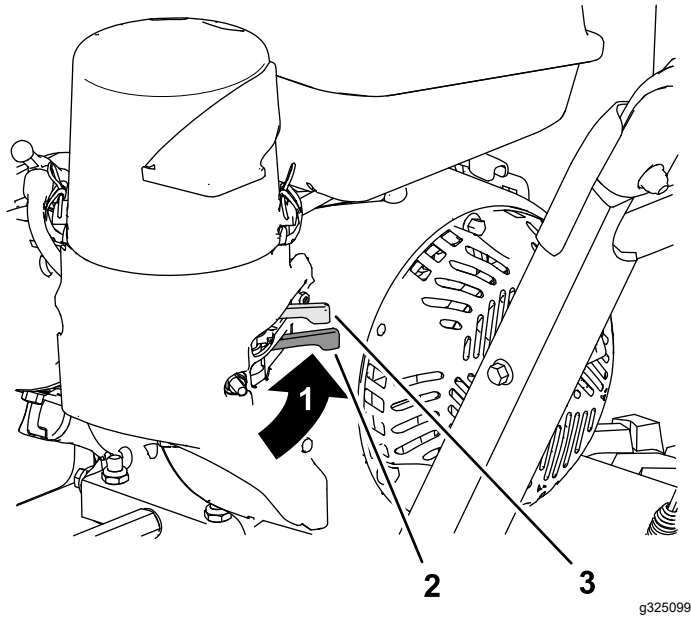

Figure 11
Move the fuel-shutoff valve located below the choke, to the right to turn on fuel (Figure 11).
2. On the rear, left side of the engine, move the choke lever to the left to the ON position. On a warm engine, leave the choke in the OFF position (Figure 11).
6. Allow the engine to warm up for several minutes, then move the choke toward the OFF position (Figure 11).
5. Use the fuel-shutoff valve to shut off fuel when you will not use the machine for a few days, park the machine inside a building, or transport the machine to and from the job site (Figure 11).